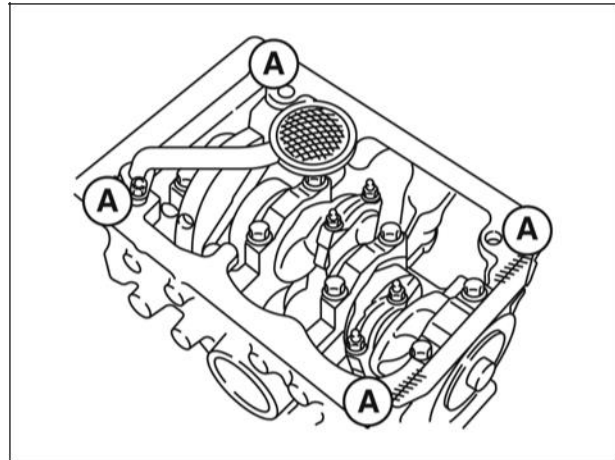

Figure 19
2. Apply a small bead of sealant to crankcase areas (A, Figure 19).